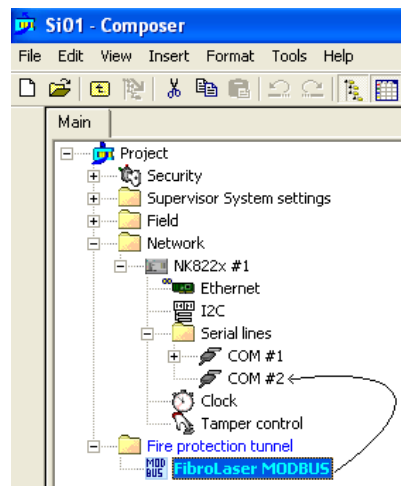

Fig. 23 Linking Modbus to the NK8000 network
3. Drag and drop the Modbus node to the network COM port (see Fig. 23).